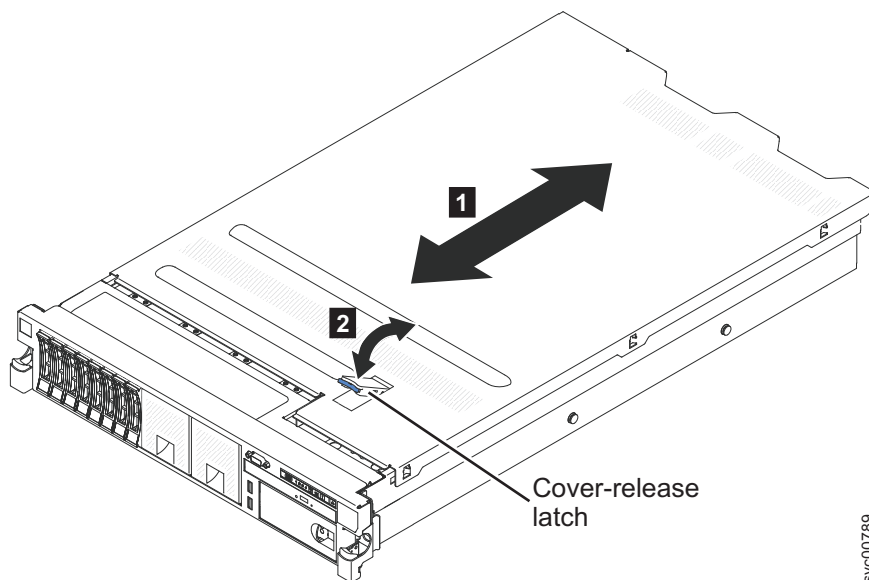

Figure 79. Replacing the SAN Volume Controller 2145-DH8 cover
4. Slide the cover toward the front of the node, as shown in Figure 79 on page 100.